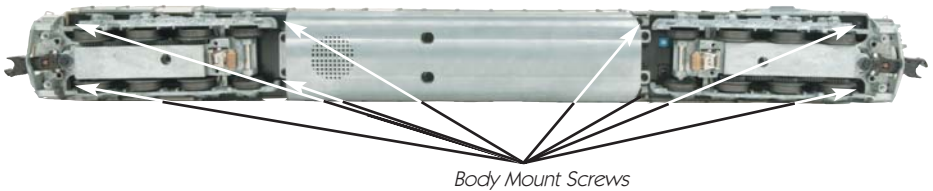

Figure 3 - Location of body mount screws
1. Unscrew the body mount screws as shown in Figure 3 and remove the body shell from the chassis.
Remove shell by removing body mount screw shown in figure 3 on page 9. Once the body shell has been removed, disconnect the bulb harness from the socket on the constant voltage circuit and replace the bulb. You can obtain replacement bulbs directly from the M.T.H. Parts Department.